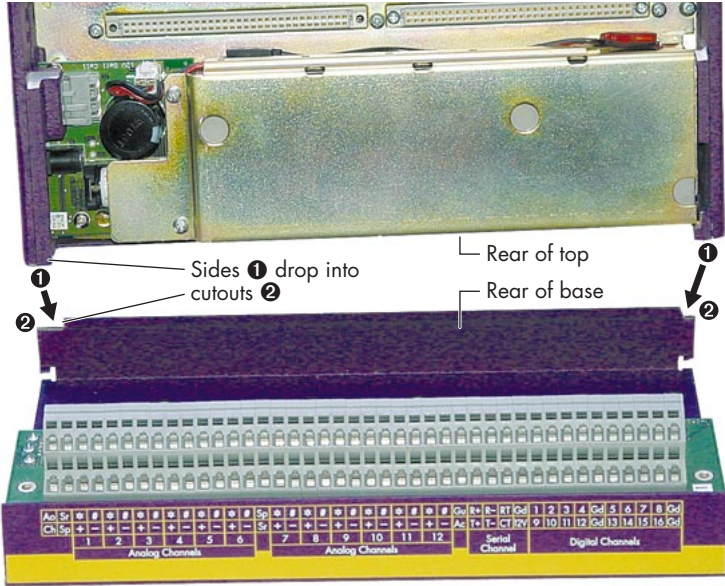
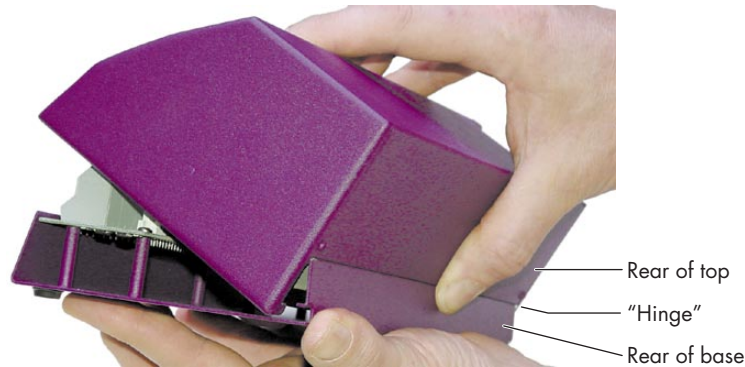

FIGURE 32 Aligning — 1
FIGURE 33 Aligning — 2
- 1 Lie the rear of the top of the DT800 along the rear of the base (Figure 32). Align the top directly over the base and "hinge" the two backs together (Figure 33).